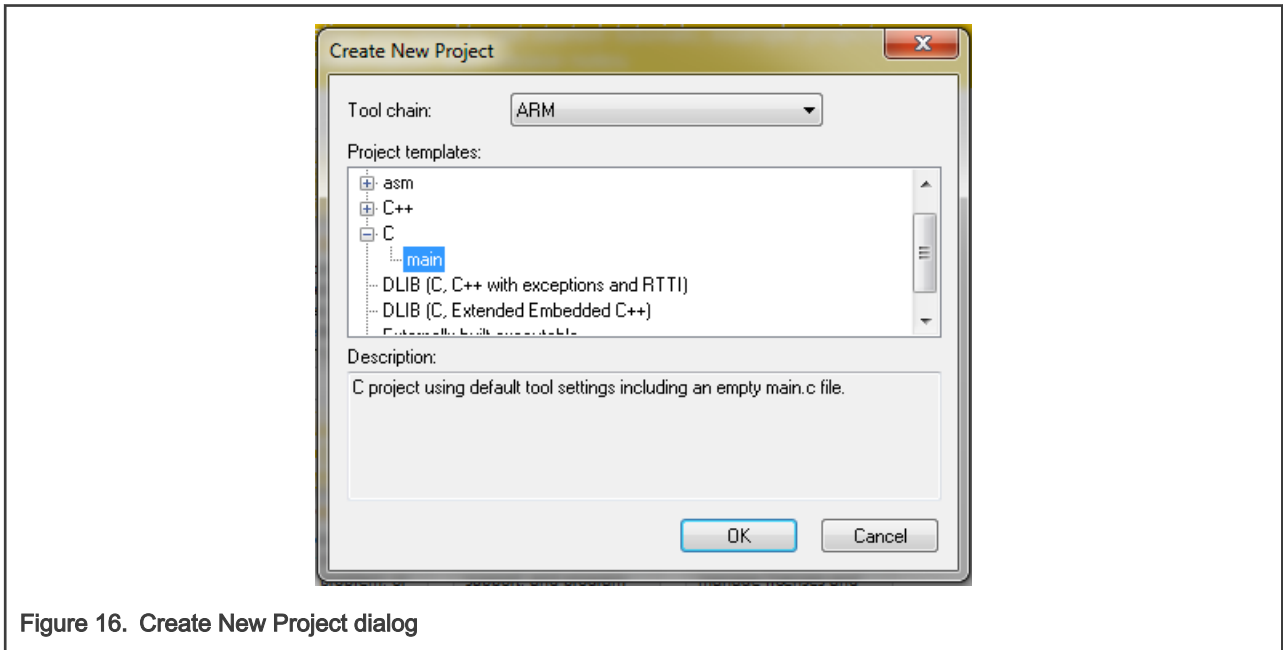

Figure 16. Create New Project dialog
2. In the main menu, select Project > Create New Project... so that the "Create New Project" dialog appears. See Figure 16.